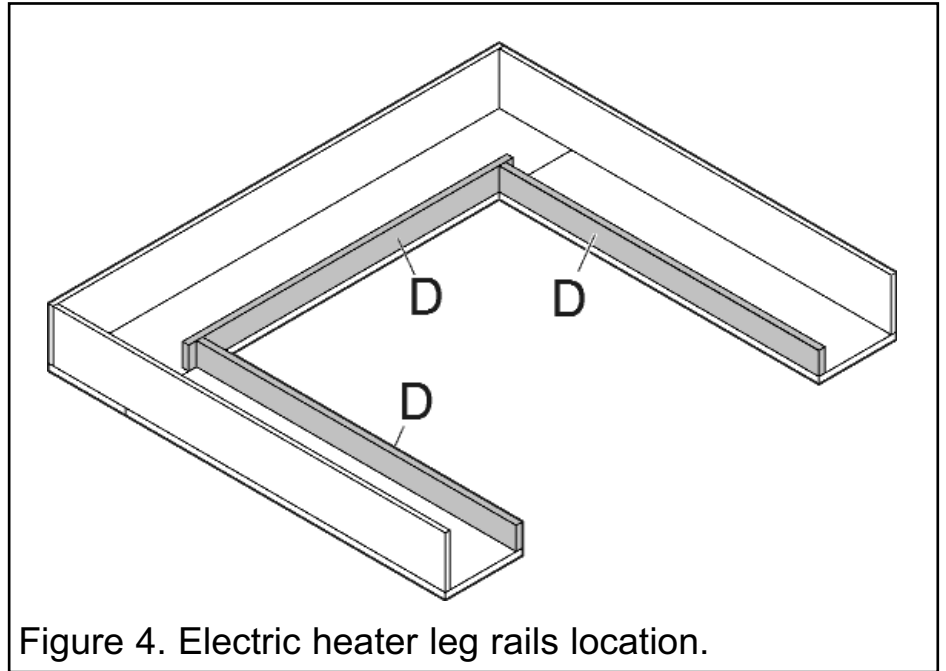

Figure 4. Electric heater leg rails location.
- Take the electric heater leg rails (D) and locate them to the legs as in figure 4. The screws should be facing the inside of the legs. Secure in place using the screws from the gas rails. The upper electric rail will require one additional 'C' screw.